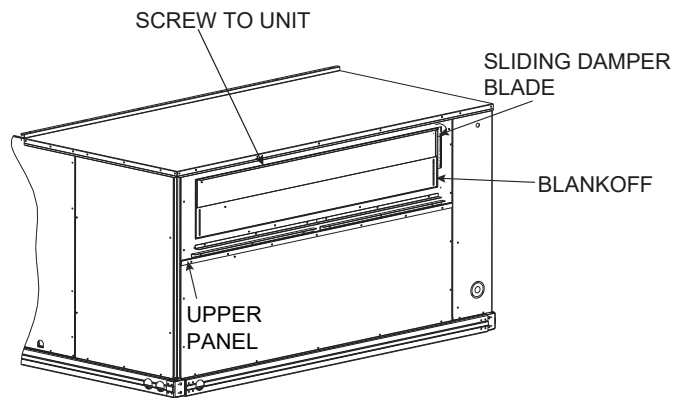

Fig. 1 — Assembled Damper
3. Install blankoff as shown in Fig. 1 and 2 with 5/16 in. screws from kit. Screw in place on upper panel on top left and top right corners.
4. Install upper panel from kit using screws saved. (See Fig. 1.)